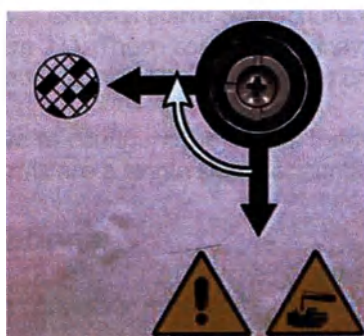

Figure 20. Vapor select valve in the internal filter position
2. Turn the vapor select valve a quarter turn clockwise to direct the vapors to the internal carbon filter (see Figure 20).